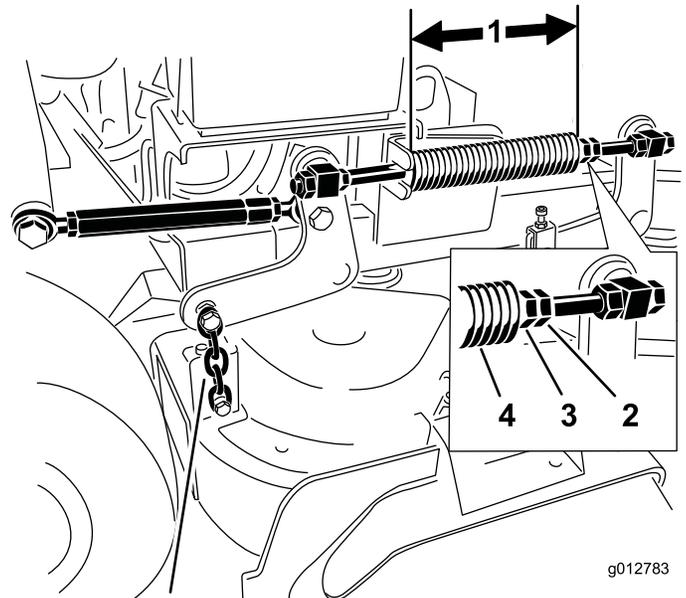

Figure 87
inch mower decks and 10-1/8 inches (25.7 cm) for 40 inch mower decks (Figure 87).
3. Adjust this distance, by loosening the spring jam nut and turning the nut in front of each spring (Figure 87).
4. Lock the nut into position by tightening the spring jam nut (Figure 87).